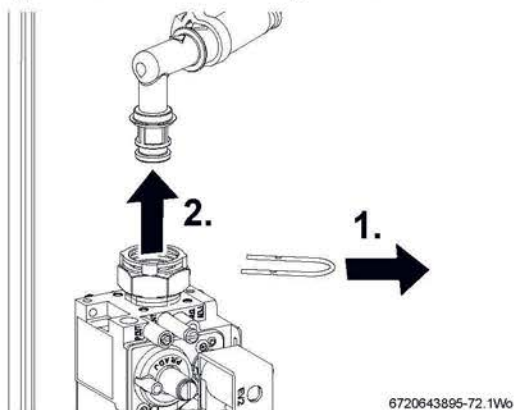

Fig. 62 Gas valve connection
1. Refer to figure 62 and remove the clip from gas valve outlet.